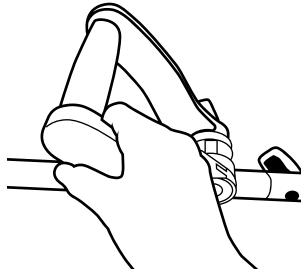

Fig. C2
2. Rotate the auxiliary handle or adjust the height as needed to a comfortable position. (See Fig. C2)